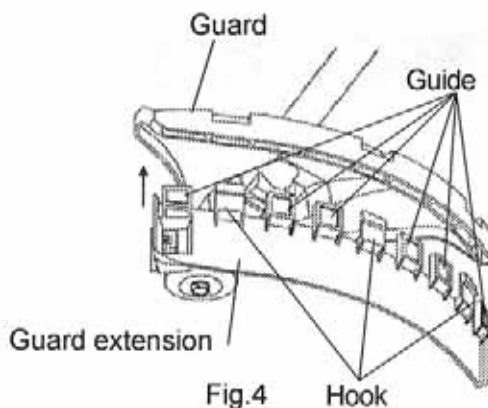
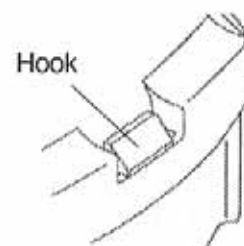

Fig.4
Fig.5
3. Enter the guide in the slot of Blade Guard on Fig. 4. Make sure place the three hooks into the position on the guard as shown on Fig. 5.